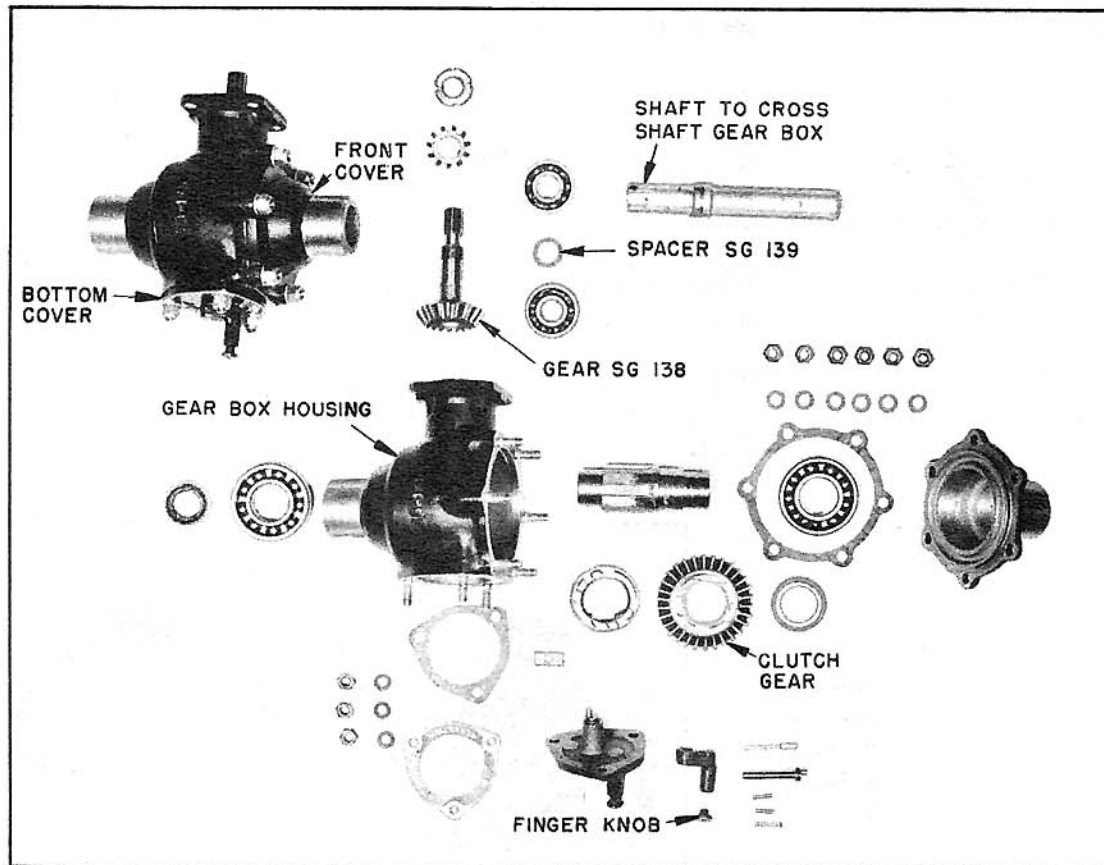
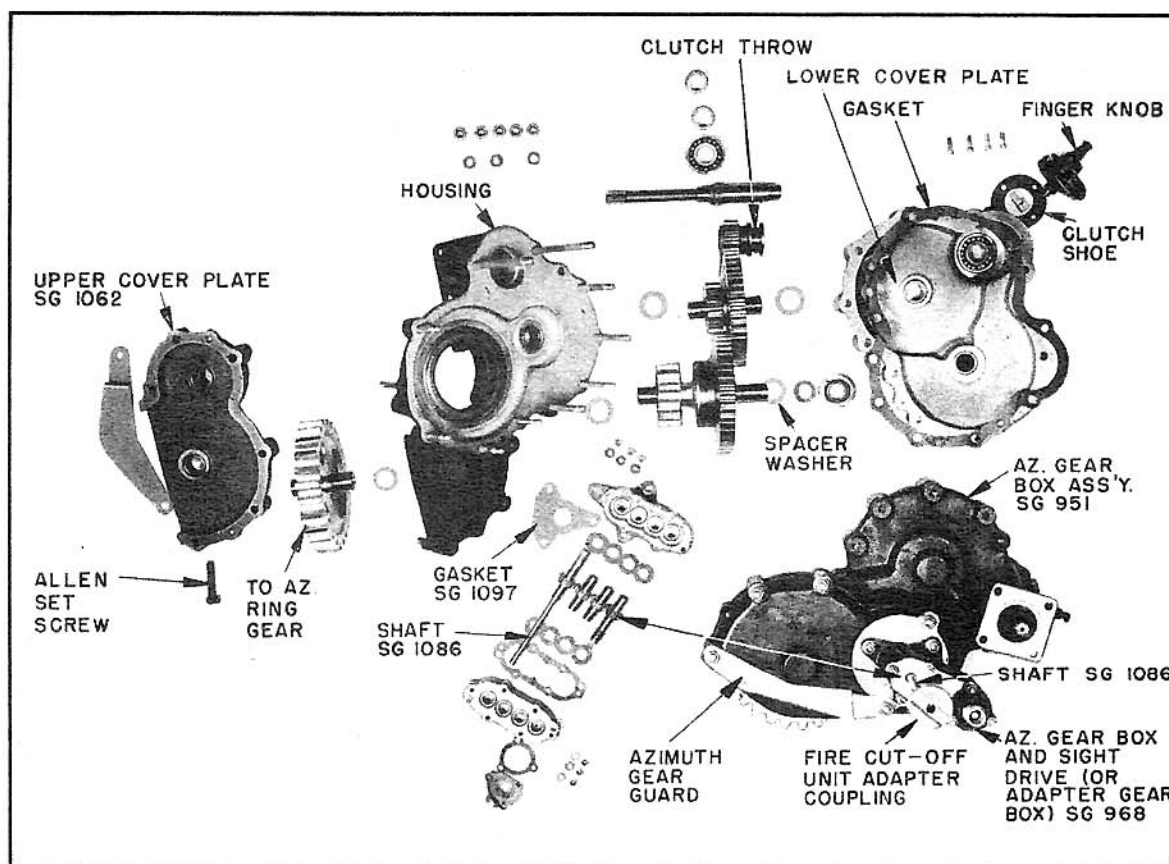

FIGURE 16
FIGURE 17
h. Elevation Transmission Gear Box. - (1) (See Figure 16.) Remove the bottom cover and then the front cover.
(2) The clutch gear is the part most likely to require replacement. The method of making this replacement will be evident by referring to Figure 16.
(3) Inspect ball bearings and oil seals and replace them where necessary.
(5) Pack case with Beacon M-285 grease and put on the proper gaskets before attaching screws.
i. Azimuth Gear Box. - (1) (See Figure 17.) The lower cover plate can be removed by taking the 10 elastic stop nuts off the studs. Then remove the upper cover plate
by taking off the 5 elastic stop nuts and 1 Allen set screw. Practically all parts will then be accessible and the replacement procedure for defective parts will be seen readily by referring to Figure 17.
(3) Refer to Figure 16 for additional details on the clutch throw mechanism. The finger knob of the clutch is held to shaft by a 0.042" x 1/4" drill rod. Care should be taken to insert shoe at end of clutch throw.
(4) Be sure that the 6 spacer washers are in place on the gear hubs. Pack the lower part of the housing with Beacon M-285 grease. No grease is required in the upper portion.
(5) Place the gasket between the lower cover plate and the housing. Set the cover in place on the studs and place the azimuth gear guard over two of the studs as shown in Figure 17. Tighten down both cover plates with washers and elastic stop nuts.
(6) After the reassembly has been completed, mount adapter gear box (SG 958) to the unit, carefully meshing the gears.